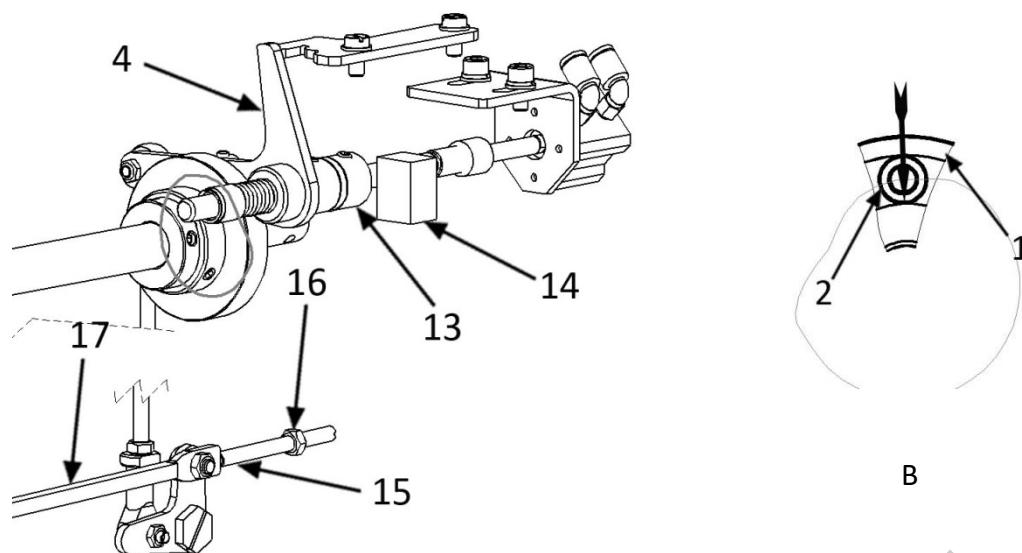

Fig. 41
- A. Put the roller 2 into cam groove , fig. 39, it means into the point of the end of trimming line, it is the carving place of the line, see cross section B-B and C-C. The carving place of the line is workable place of the cam where the thread is cut by movable knife. Push the roller of the cam down to the inner part of the line (in the direction of the arrow, fig. 41, view B). And then tighten stopper screw tightly 15, fig. 41 to the shaft 17 and fix screw by nut 16 in this position.
- B. Adjust axial position of cam 1 on the shaft 12. Take pin 6 of the valve 8 out to the edge position, push pin on the shaft 10 together with arm 4 and with roller of the cam 2 to the edge position. If the pin 5 doesn't fit well on the bottom line of cam, loosen the screws 9 and adjust pin 6 of the valve into the correct position through the movement of valve holder 7. Loosen the screws of the cam 1 and move it softly into the position with the play of 0,2 mm between pin 5 and bottom line of the cam. Tighten the cam screws. Push support ring 11 to the cam and tighten the screws. Insert the pin 6 of the valve 8 into the second position. The spring 18 moves the shaft 10 back so that the ring 13, fig. 40 is supported by casting 14 in the arm of the machine. The pin 2 on the roller is out of the cam 1. In this moment there is a blank space between the shaft 10 and pin 6. Adjust the stopper plate 3 with screws 19, fig. 41, so that the cut section of the arm 4 of the plate has the play about 0,3mm. During the reinsertion of roller 2 into the cam 1 the arm of the plate 4 goes out of the arm of plate 4 from the cut section 3 and moves to the end point of stopper plate 3. There should be blank space about 0,5mm, fig. 40 between the arm of the plate 4 and stopper plate 3.